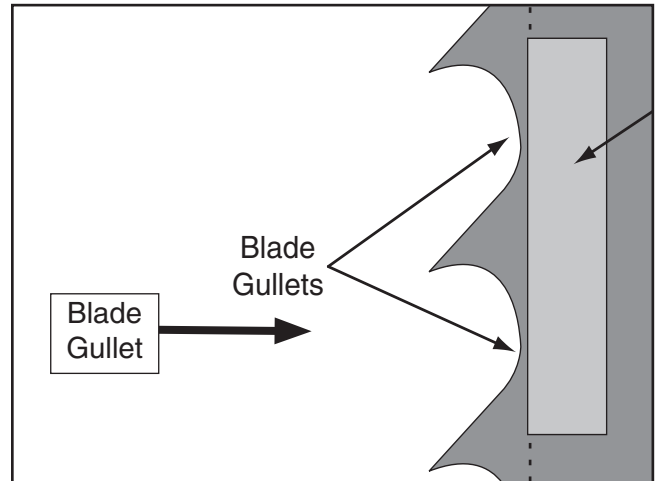

Figure 22. Lateral adjustment of blade guides.
4. Loosen the cap screw on the lateral adjustment rod and adjust the blade guides until the edges of the bearings are $\frac{1}{16}$ " behind the blade gullets, as illustrated in **Figure 22**.